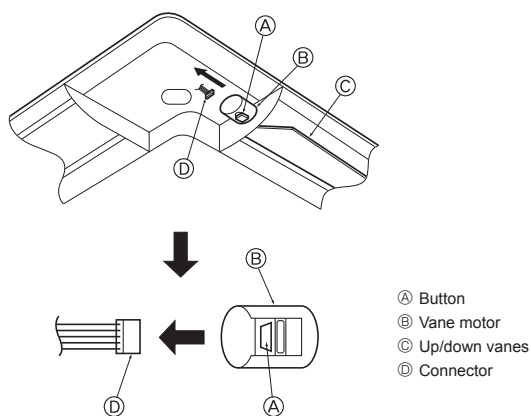

Fig. 5-17
5.4. Locking the up/down airflow direction (Fig. 5-17)